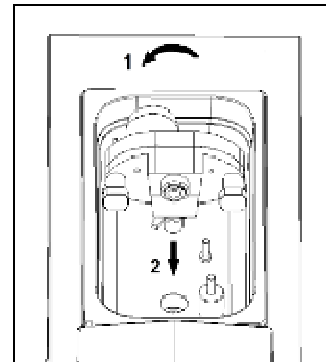

Fig. 3
- **R**emove the pump by first rotating it counter-clockwise (1) and then by pulling it towards the upper tank centre (2) in order to disassemble it from its shaft (fig. 3).